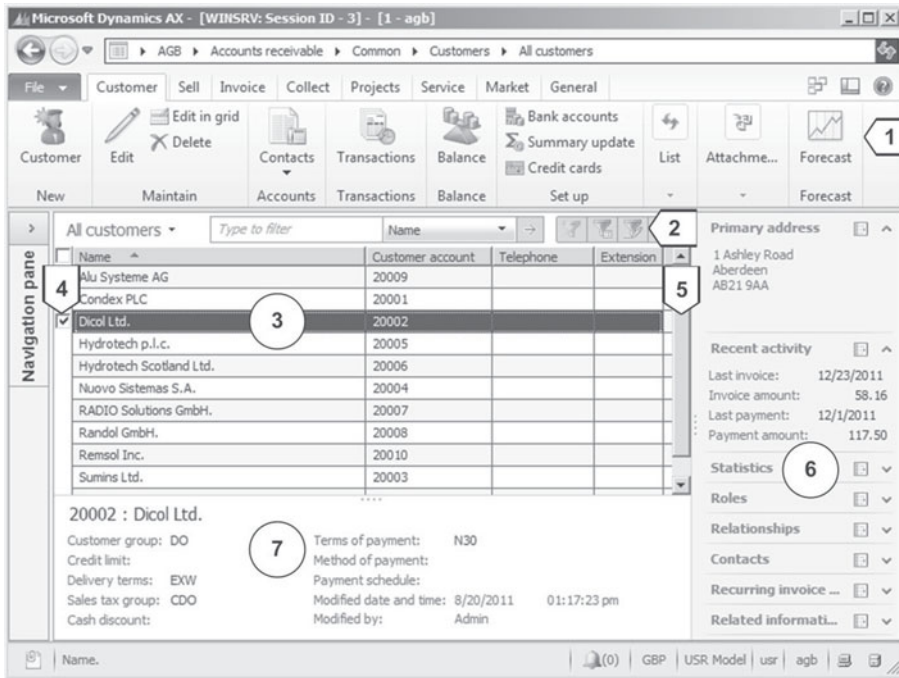

Figure 2-6: List page *Customers* (Auto-Hide Navigation enabled)
A list page (like the customer page shown in Figure 2-6) provides a list of records of a particular table. You may use list pages to view and to select records as well as to complete daily tasks on those records.
- The number and functionality of buttons is depending on the particular page. Depending on the number of available actions, they show on several tabs (e.g. the action pane tabs *Customer* or *Sell* in Figure 2-6).